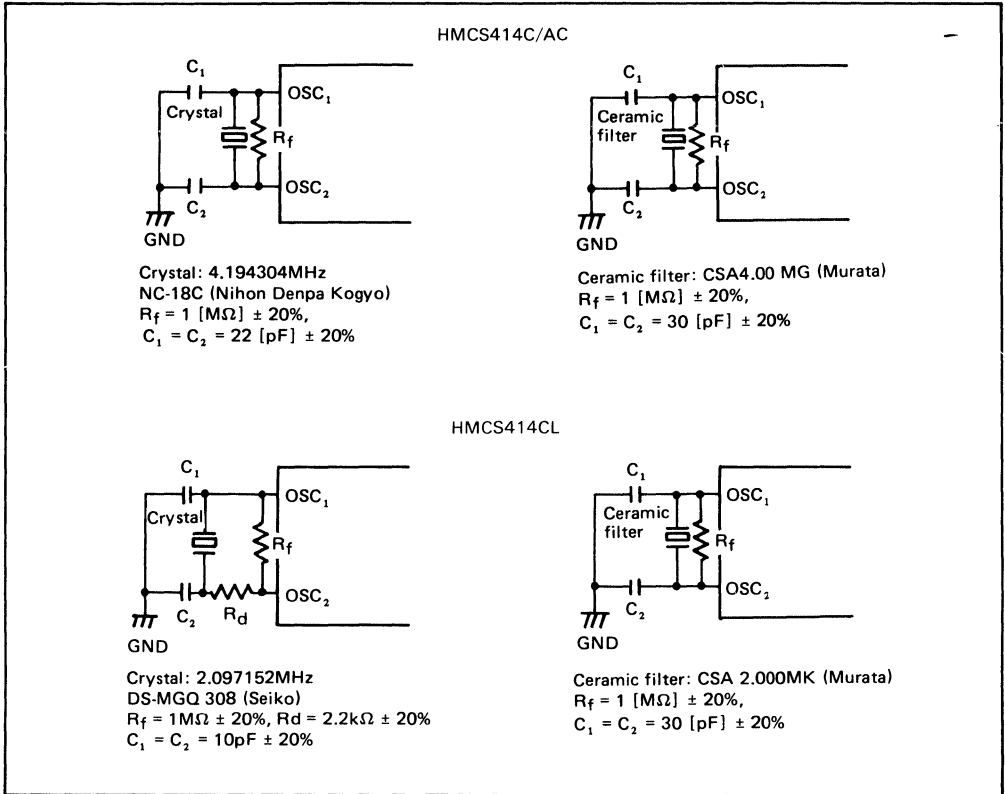

Figure 21. Oscillation Circuit
- Oscillator stabilization time is the time until the oscillator stabilizes after V_{CC} reaches its minimum allowable voltage (HMCS414C; 3.5 V, HMCS414CL; 2.5 V, HMCS414AC; 4.5 V) after power-on, or after RESET goes high. At power-on or stop mode release, RESET must be kept high for at least t_{RC} . Since t_{RC} depends on the crystal or ceramic filter's circuit constant and stray capacitance, please get the manufacturer's advice when designing the RESET circuit. (See figure 21.)